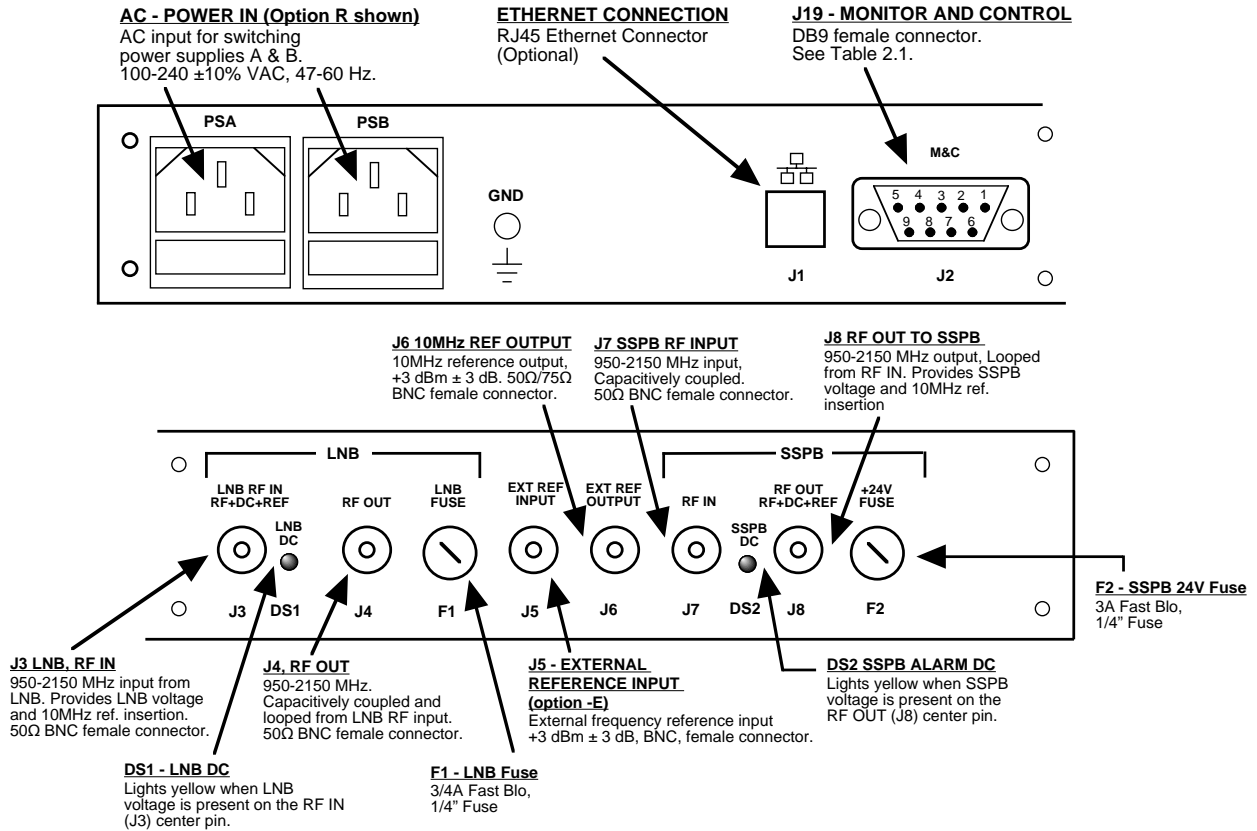

FIGURE 2.1 2099-2424 Rear Panel Outputs
2.2 Rear Panel Output Signals - Figure 2.1 shows the input and output connectors on the rear panel.
2. Connect 100-240 \pm 10% VAC, 47-63 Hz to PSA and PSB connectors (Figure 2.1).